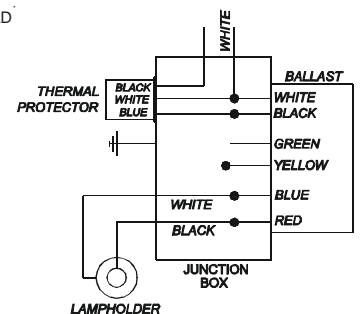

FIG.7
**For electronic ballast models:** (Fig.7)